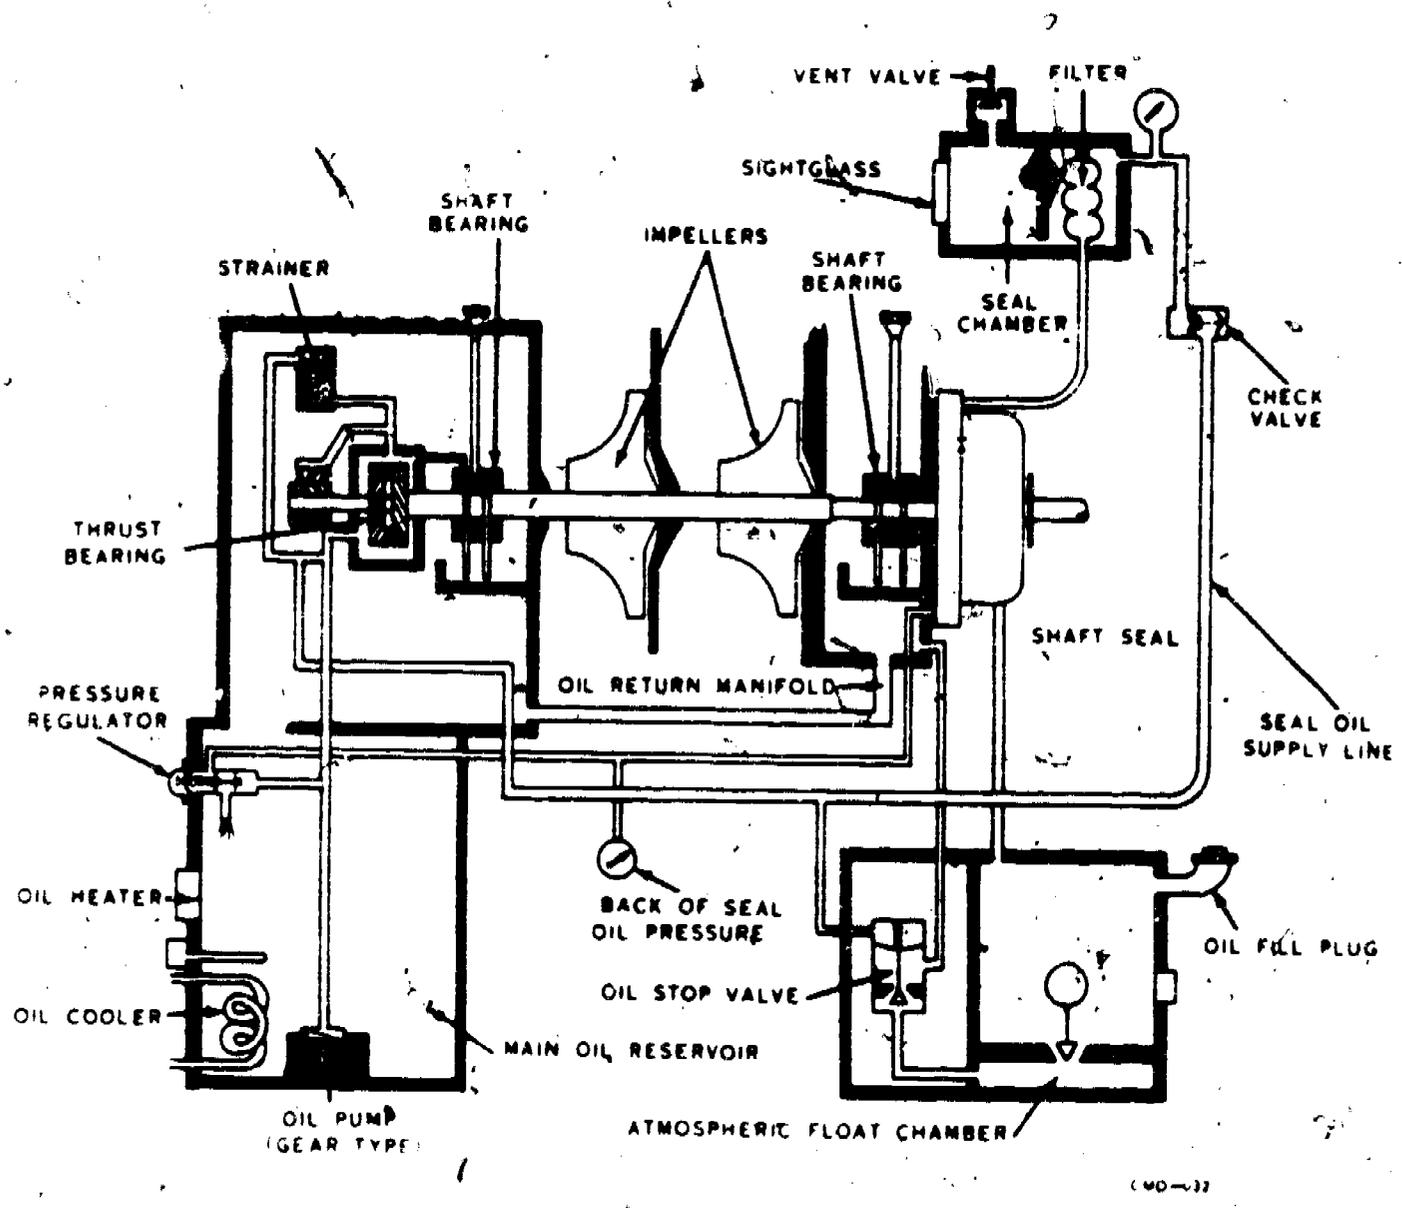

Figure 13. Oil Piping Diagram
In operation, the pressure differential across each impeller produces an axial thrust toward the suction end of the compressor. This thrust is supported by a "Kinsbury" thrust bearing at the suction end of the shaft. (See figure 13.)
**COMPRESSOR LUBRICATING SYSTEM.** The compressor has a forced lubrication system (figure 13) including oil pump, bearing oil rings, pressure regulating valves, etc. The entire oiling system is housed within the compressor casing and the oil is circulated through cored openings, drilled passages, or fixed copper lines. This eliminates all of the usual external lines and their danger of possible rupture, damage, or leakage. All of the oil for the lubricating system is circulated by a helical gear pump, which is submerged in the main oil reservoir. The simple, positive drive assures ample oil for pressure lubricating and cooling, all journal bearings, thrust bearings, and seal surfaces.
5. Fill the atmospheric float chamber through the connection on the side of the chamber until oil shows in the sight glass. (See figure 13.)
3. Oil can be added to the filling connection (figure 13) on the side of the atmospheric float chamber only while the machine is in operation and the atmospheric float chamber return valve is open.